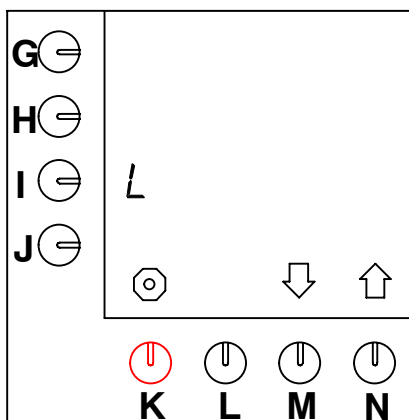

Fig. 32 The default set unit = L (litres)
- This is the default setting (fig.32).